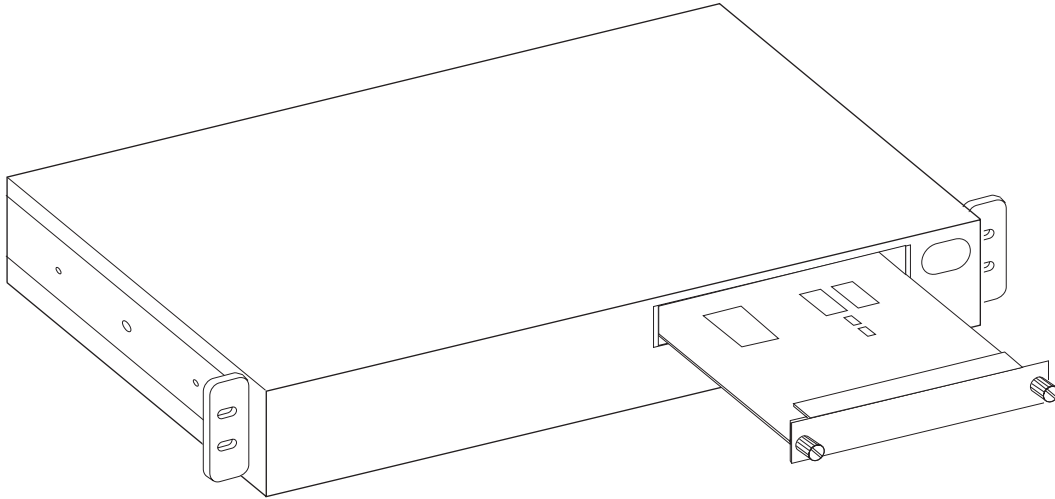

Figure 3. Installing a UFC
- Step 3** Carefully insert the card into the rails on each side of the UFC slot, sliding it back until the connector on the card is seated in the connector at the back of the slot. To ensure that the connector is correctly seated, press firmly on the bottom edge of the UFC faceplate just inside the thumbscrews. See Figure 3 on page 5.